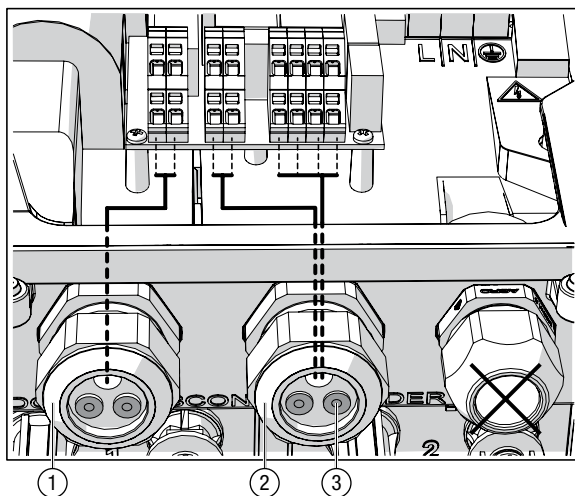

Figure 5 Wiring of connections in the inverter
- Always route mains voltage cables through the middle cable gland (Figure 5/Pos. 2).
In order to ensure that the inverter remains sealed, unused apertures in the cable glands must be closed with the locking pins (see Figure 5/Pos 3). The locking pins are included in the delivery package.
- Always route the connecting cable through the middle cable gland (Figure 5/Pos. 2).
- Always route the cable through the middle cable gland (Figure 5/Pos. 2).